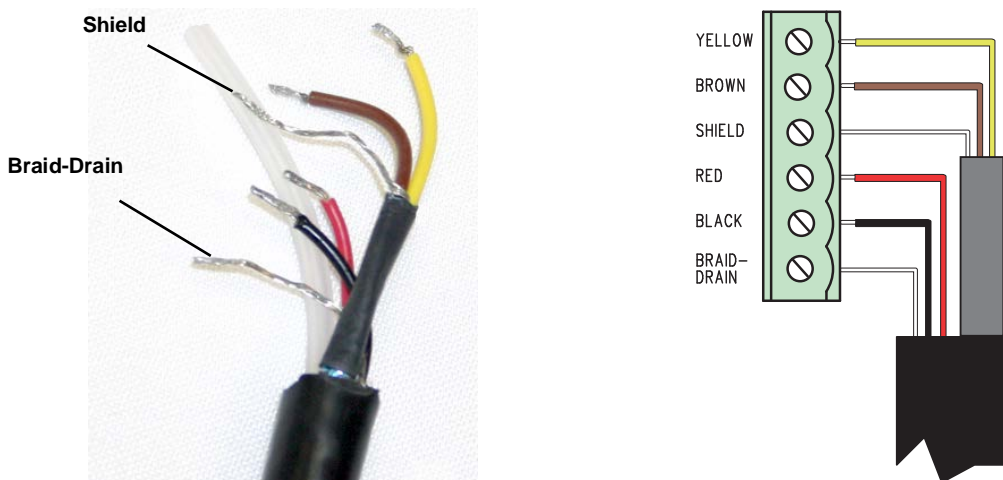
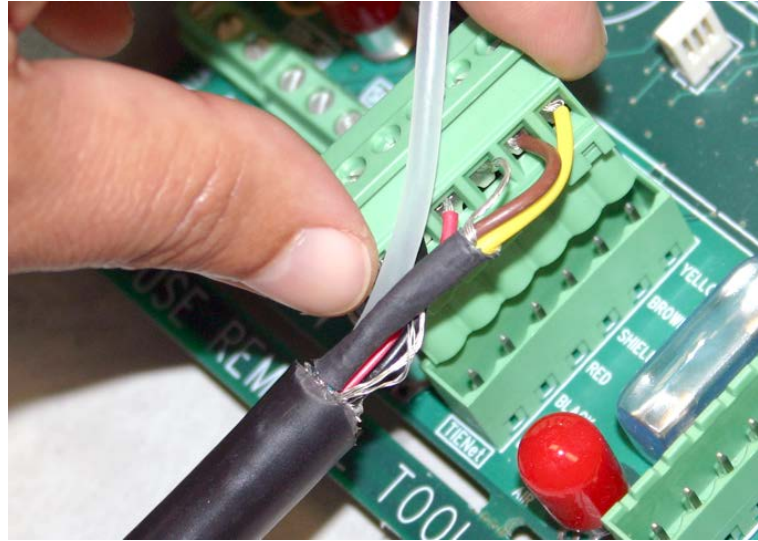

Figure 2-4 TIENet device terminal connections
Figure 2-5 Attach wired terminal strip to case board socket
4. Attach the wire ends to the terminal strip as shown in Figure 2-4), then press the terminal strip back down into its socket on the case board, as shown in Figure 2-5, ensuring no wire connections are strained. Gently tug each wire when finished, to verify secure connection to the screw terminals.